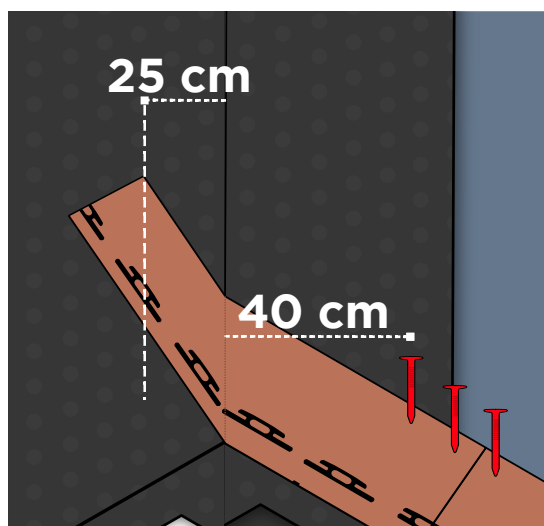

Fig. 12 – Shingles installation at valleys
- As for the roof valleys, prepare a band of bituminous membrane about 100cm wide, applied by torch in advance, to ensure its waterproofing – Fig. 12. Install the starting row and the shingles of the first pitch, making them rise 25 cm above the valley line. It is advisable to cut the shingle, once installed, following a parallel line to the valley at 25cm. The shingles should be fixed by torch where there is the bituminous membrane and by nail in the remaining part. Do not nail the shingles less than 40 cm from the valley line – Fig. 12